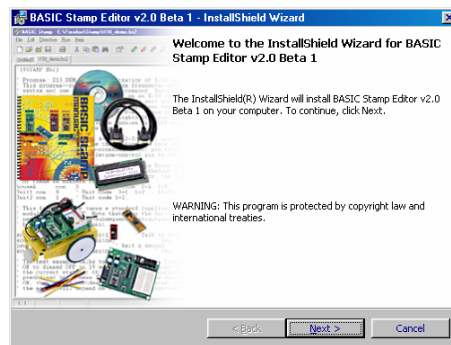

Figure 1-18
- ✓ When the BASIC Stamp Editor InstallShield Wizard window opens, click the *Next* button shown in Figure 1-18.